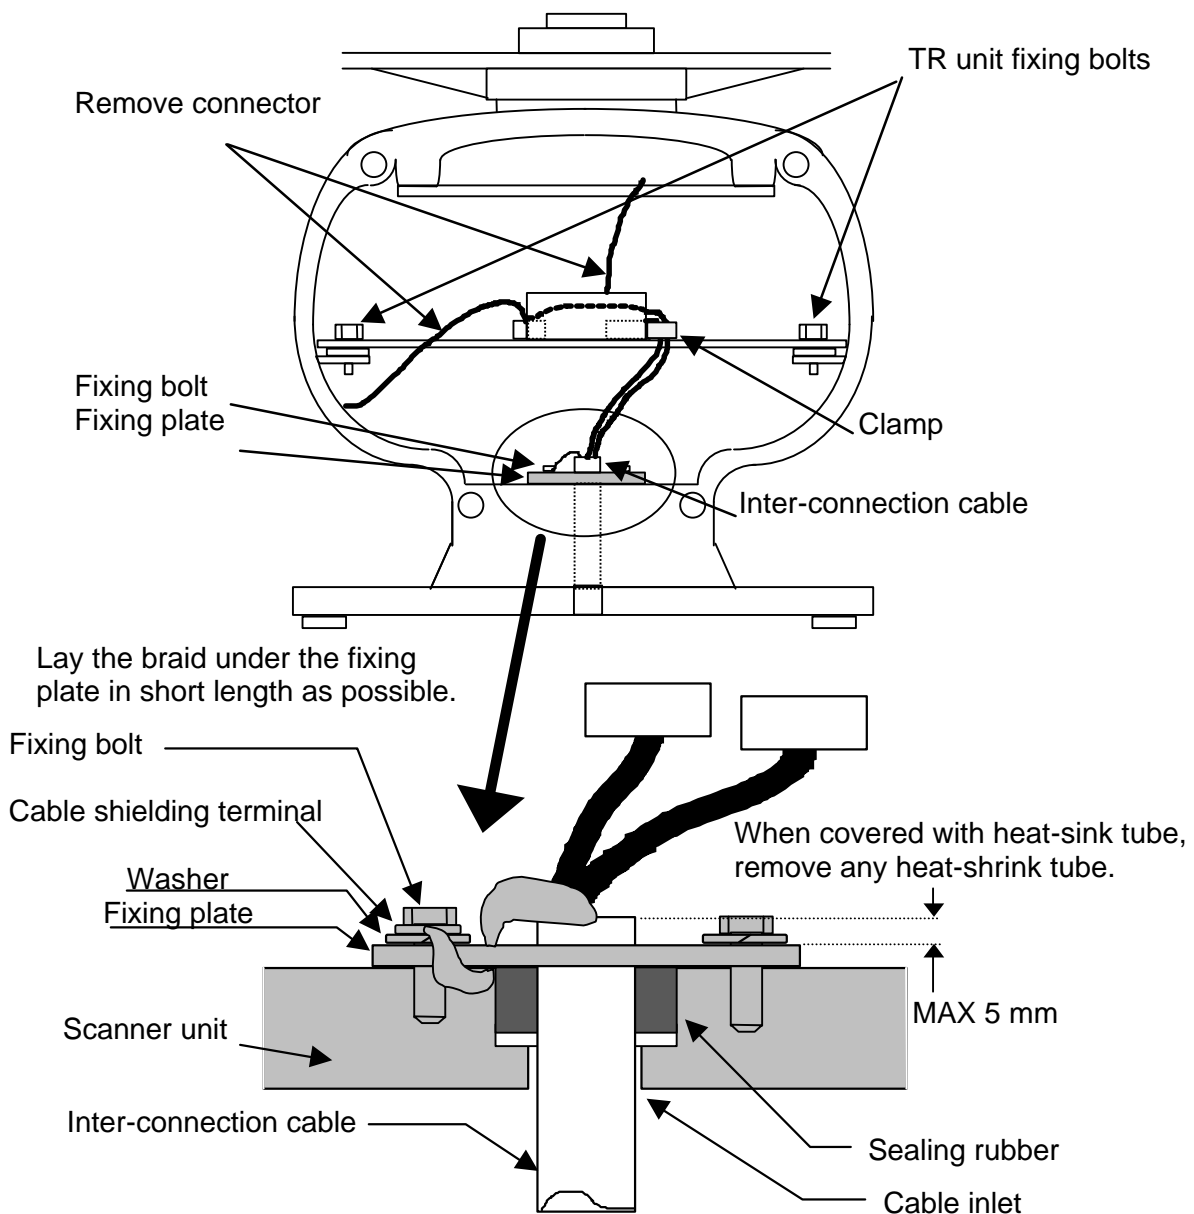

Fig.3-9 Fitting interconnecting cable
3.7.2 Interconnecting cable (RA52/53/54/55 Open scanner) (See Fig.3-9)